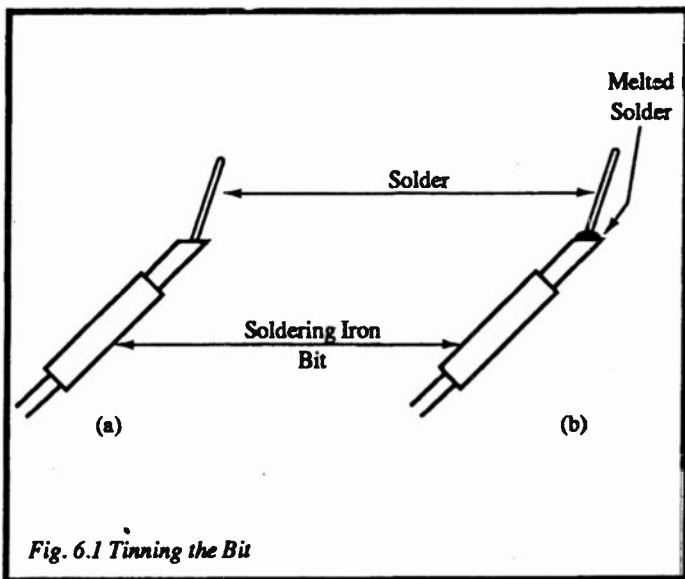

Fig. 6.1 Tinning the Bit
A considerable amount of patience is required here as the bit must be tinned exactly at the moment that the bit temperature reaches the melting point of your solder (Figure 6.1(a)). The method adopted is very simple as follows:
- (iv) After a short time the solder should be seen to start melting. As soon as this happens move the solder around the flat face of the bit, ensuring that it is well covered (Figure 6.1(b)).